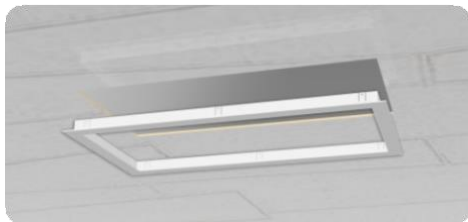

Fig.09
B) LED light that with aluminum mounting frame (Fig.09~13):